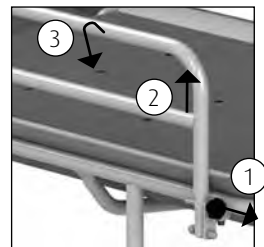

Figure 4: Side bar mobile
Mobile stretcher / dressing table: Unlock the safeguard by removing the bolts on both sides of the side bar (1) (See figure 4).
- Turn the unlocked side bar outwards (3).